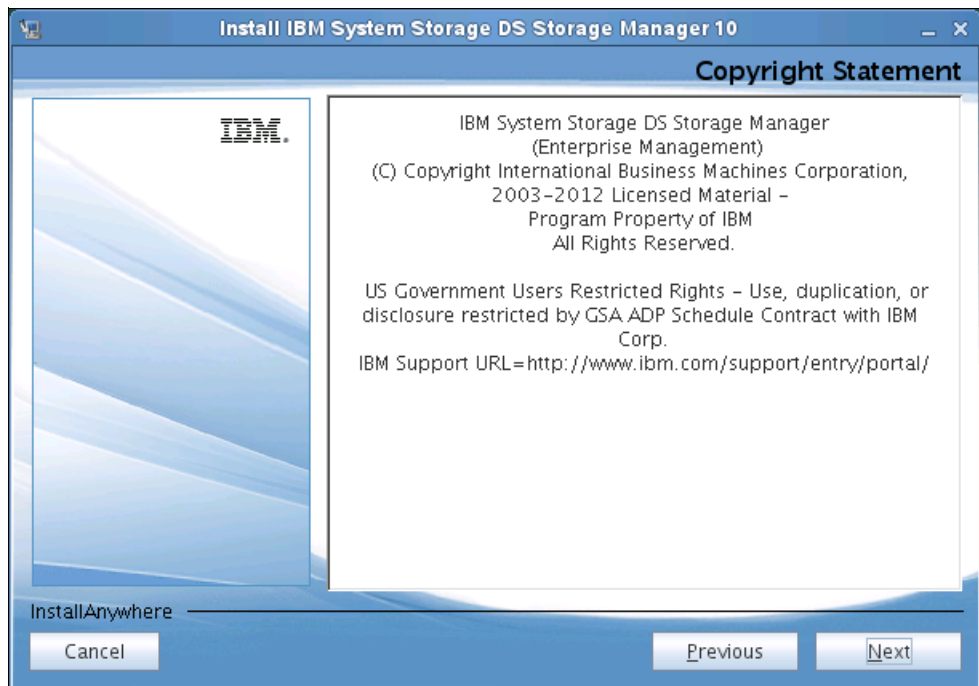

Figure 4-16 Copyright statement
5. Read the copyright statement and click **Next**, as shown in Figure 4-16.